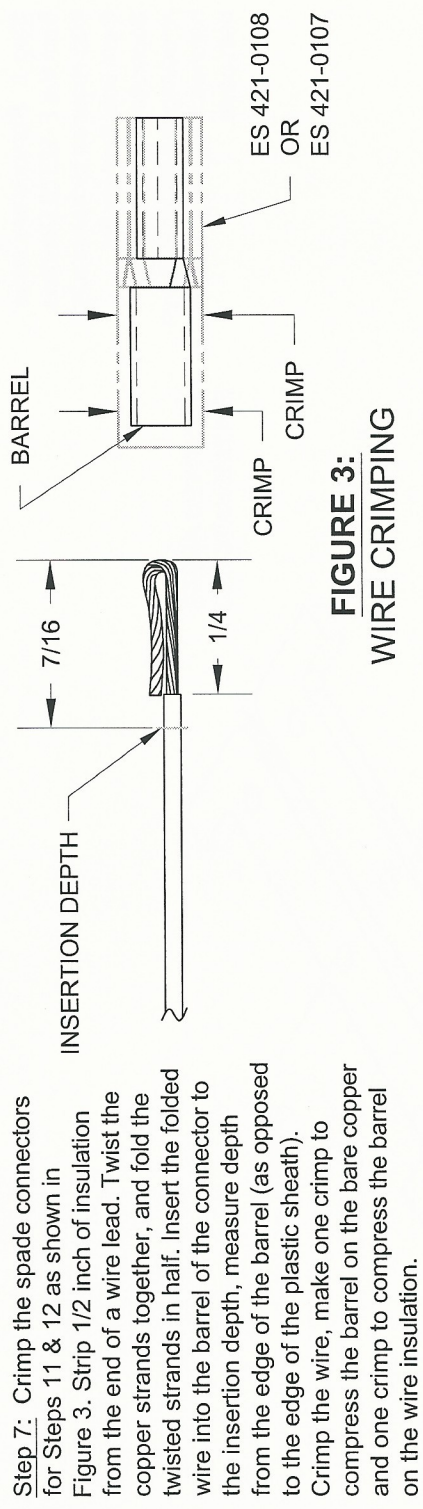

FIGURE 3:
- Step 7: Crimp the spade connectors for Steps 11 & 12 as shown in Figure 3. Strip 1/2 inch of insulation from the end of a wire lead. Twist the copper strands together, and fold the twisted strands in half. Insert the folded wire into the barrel of the connector to the insertion depth, measure depth from the edge of the barrel (as opposed to the edge of the plastic sheath). Crimp the wire, make one crimp to compress the barrel on the bare copper and one crimp to compress the barrel on the wire insulation.